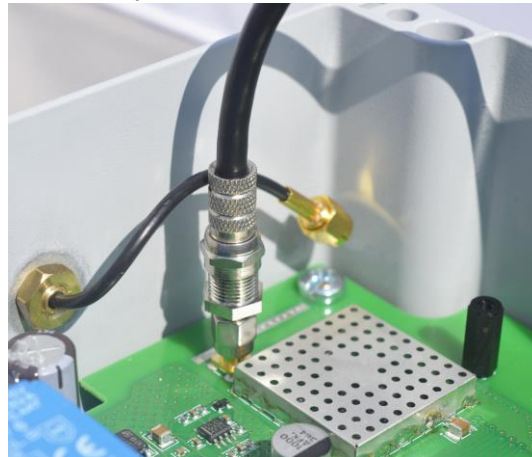

Figure 9: inside view, antenna cable connected to the printed circuit board
13. Pull back some of the antenna cable (which is kept longer in point 5). Connect the antenna cable to the printed circuit board: fasten the SMA connector of the antenna cable onto the SMA connector of the circuit board (Figure 9).